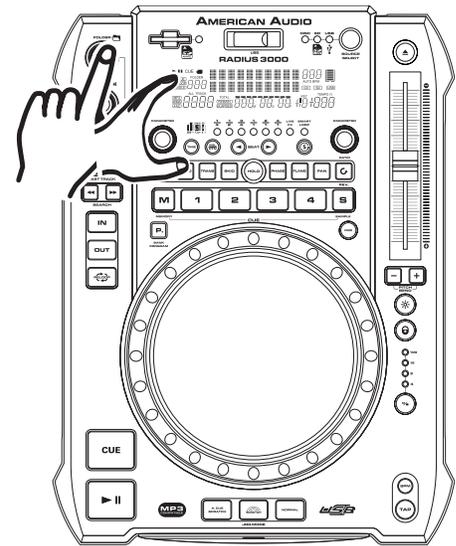

Figure 55
1. Press the *FOLDER KNOB (20)* to enter the internal menu.
2. Once you are in the internal menu, turn the *FOLDER KNOB (20)* until MIDI SETUP is displayed.
3. Turn the either the *TIME KNOB (31)* or *RATIO KNOB (25)* until the USB = LINK is displayed, and press the *FOLDER KNOB (20)* to save the setting and exit.
5. Connect the MAIN PLAYER using the rear USB port to the second players top USB port. See Figure 55.